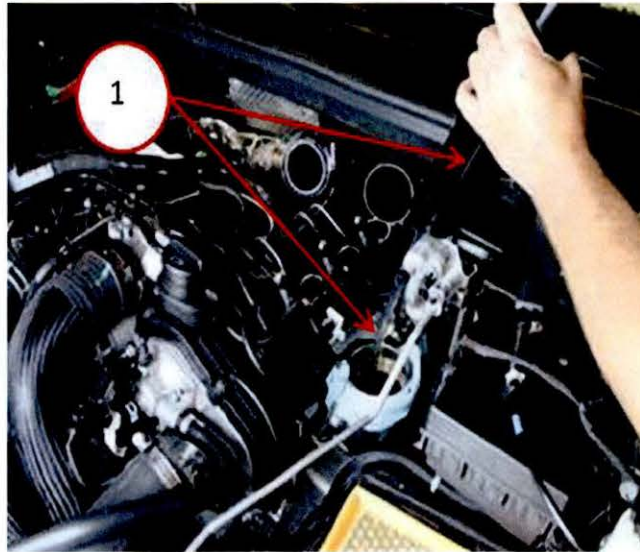

Fig. 3 Removing Oil From Housing
5. Using a suitable suction tool (Fig. 3), remove any residual oil from oil filter housing.